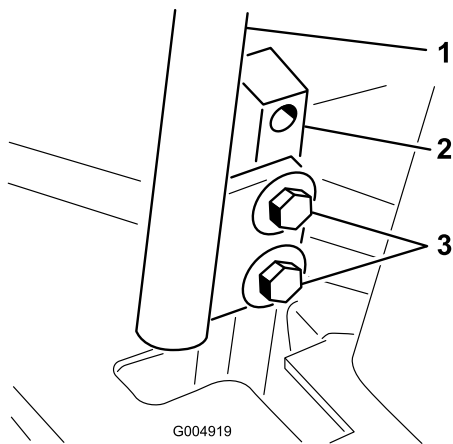

Figure 77
3. Loosen the bolts securing the control levers (Figure 77)